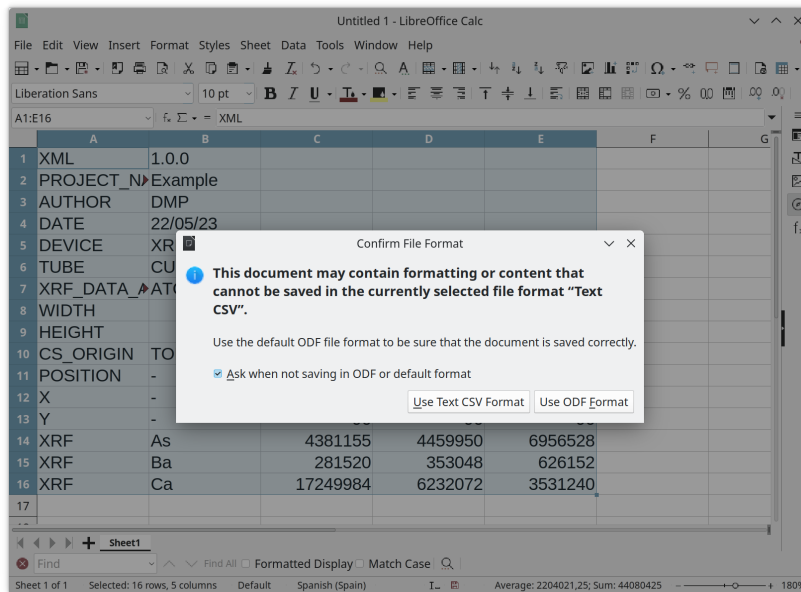

Figure 7.5: Window to confirm the type of the file. It must be CSV.
4. A window will appear, notifying us about the format in which the file will be saved. In this window, we need to click on the option Use text CSV format (Figure 7.5).